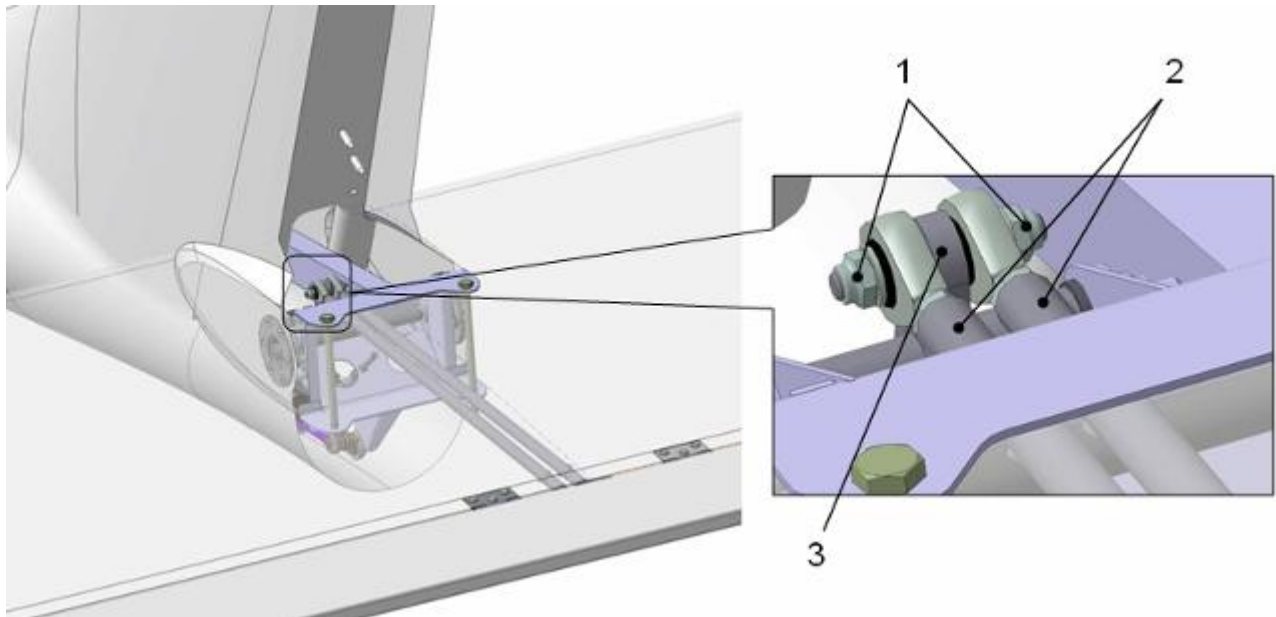

Fig. 4-1
1. Unscrew nuts (1) with wrench 8 (mm) and disconnect push rods (2) from pin of rocker (3), Fig. 4-1. (rudder, rudder support and underfin not shown).